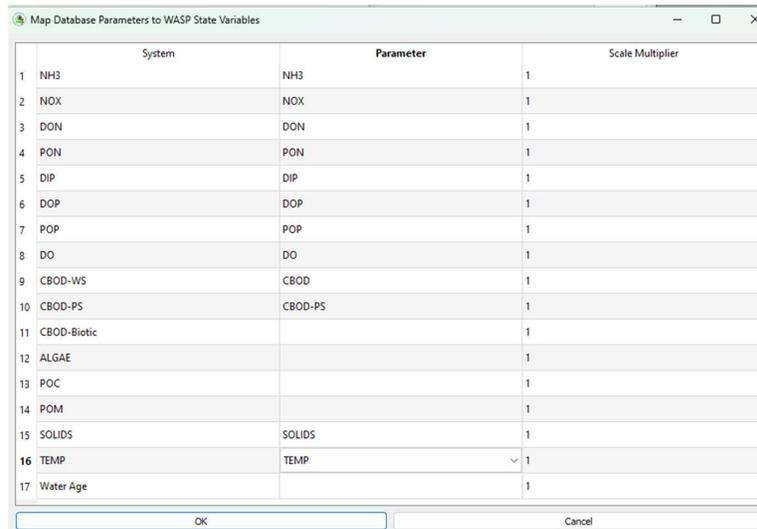
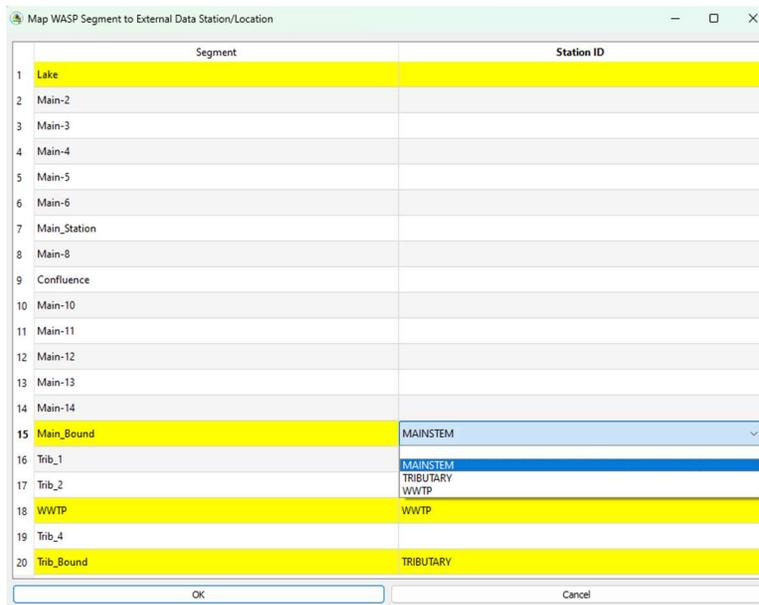

Figure 33 WASP Completed Database Parameter to Model State Variable Connection
Figure 34 WASP Database Segment to Station Connection
- **Stations Button:** this button will cause the interface to display the database station to model segment connection (Figure 34).
Figure 34 shows the completed Parameter Code linkage to WASP state variables.
Figure 34 illustrates the segment linkage to database Stations. The rows that are highlighted in yellow are segments that have a boundary condition. If your segment name is the same as a Station ID in the database, they are automatically linked. Otherwise, use the drop-down menu to select the database Station ID that should be linked to the segment being defined.
The external data connections for boundary concentration time series is fairly straightforward depending upon the mappings of database parameters to WASP state variables (Figure 33) and database stations to WASP segments (Figure 34).